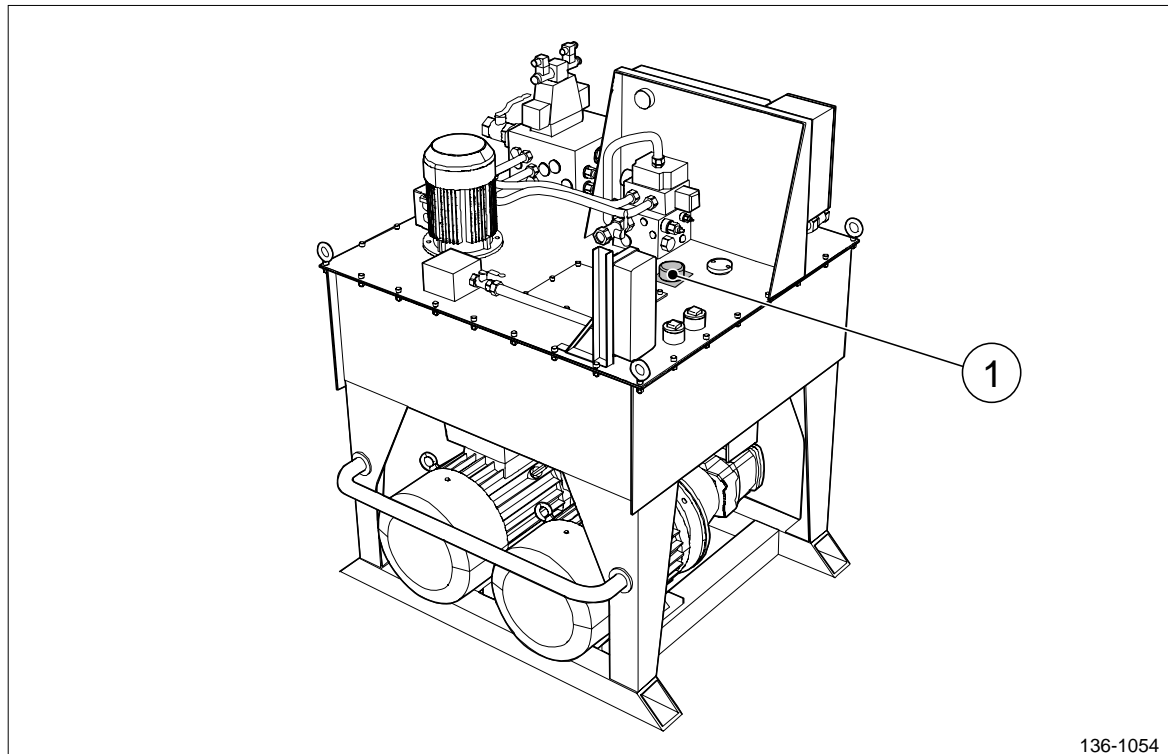

Figure 1 Level switch on the hydraulic power pack.
1. Locate the level switch LS1, see figure 1.